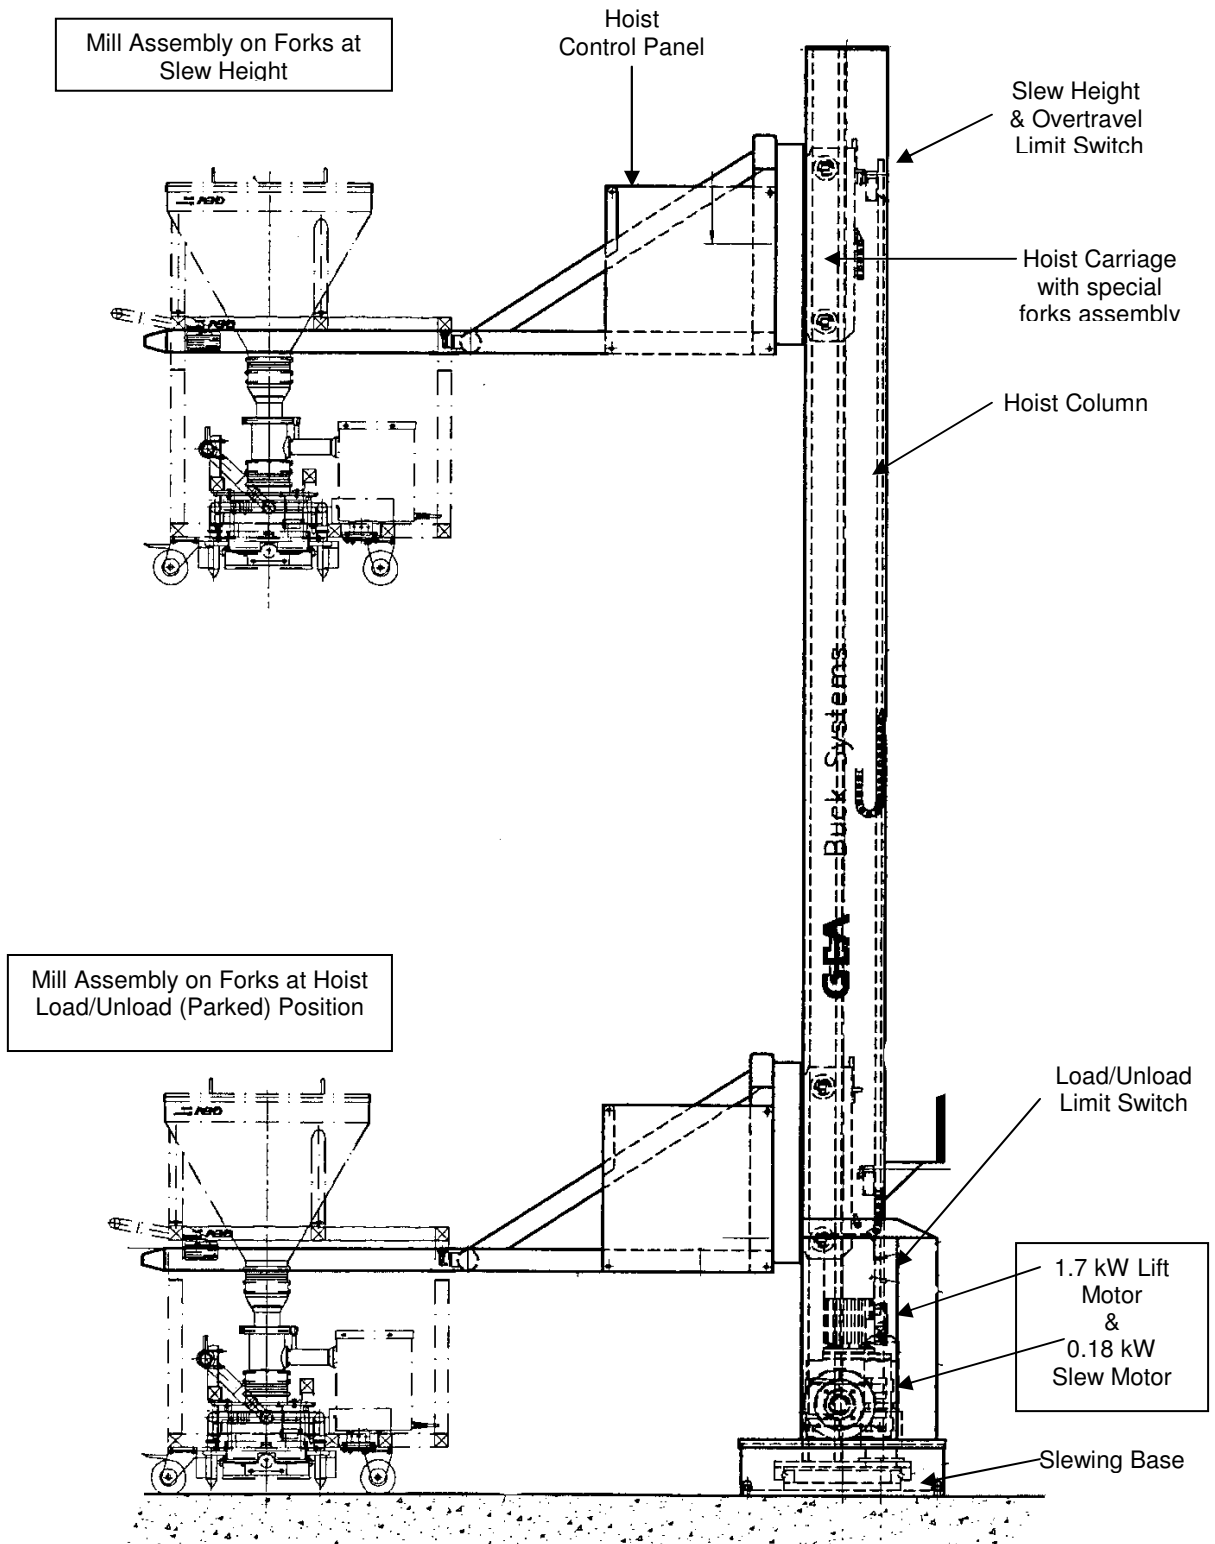

Fig 12 - PH600 Post Hoist
1.2.2 PH600 Slewing Post Hoist (G1951-D01) (Figs 12 – 14)
Lifting Column (Fig 12)
Slewing Base (Figs 12 & 13)
Lifting Forks (Figs 12)